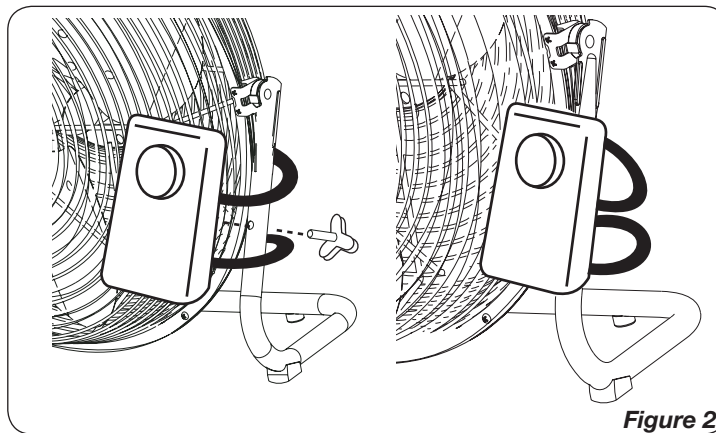

Figure 2
3. Remove the holding screw from the rear of the fan switch box. (**Figure 2**)